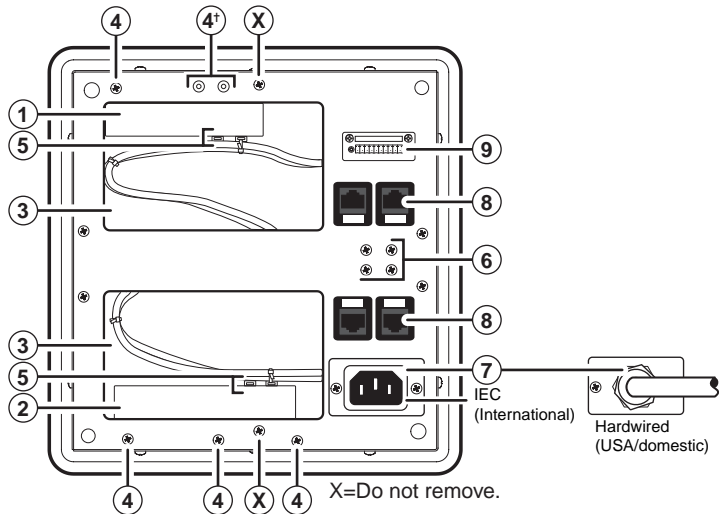

Figure 3-1 — HSA 822MS maintenance features
Figure 3-1 shows the underside of the enclosure (with the tray removed) and many of the maintenance-related features.
NOTE The screws indicated by a dagger (†) on figure 3-1 are accessible from the top (inside the enclosure).
4. **If an AAP cable is no longer required in your system,** from the underside of the enclosure, reach into the cable access holes (figure 3-1 on page 3-2, item ③), and cut the tie wraps (⑤ shows the tie-downs) that route the AAP cables and network (CAT 6) cables inside the enclosure.
11. Replace the AAP/RJ-45 panel in the surface mount enclosure and secure them in place with the screws removed in step 2. If you lose an AAP/RJ-45 panel screw, four spare screws are stored in the underside of the enclosure (figure 3-1 on page 3-2, item ⑥).
6. Replace the AAP/RJ-45 panel in the surface mount enclosure and secure it in place with the screws removed in step 1. If you lose an AAP/RJ-45 panel screw, four spare screws are stored in the underside of the enclosure (figure 3-1 on page 3-2, item ⑥).